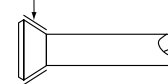

Fig. 15
- When connecting the flare nut, apply ester oil or ether oil to the flare section (both inside and outside), and spin 3-4 times before screwing in. (Refer to Fig. 15)